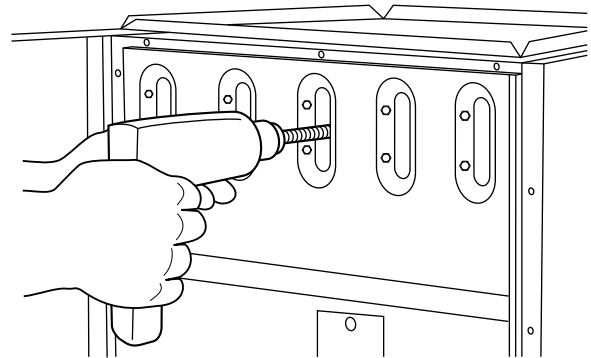

Fig. 47 - Cleaning Heat Exchanger Cell
- (2.) Insert brush end of cable into the outlet opening of cell and slowly rotate with drill. **DO NOT** force cable. Gradually insert cable into upper pass of cell. (See Fig. 47 .)